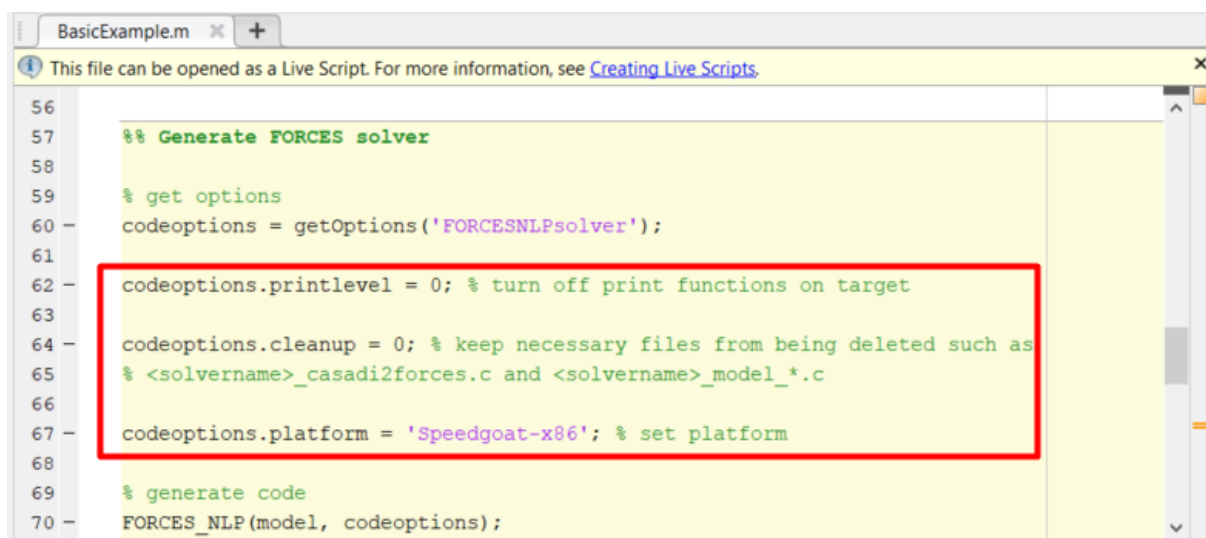

Figure 13.60: Set the appropriate code generation options.
1. (Figure 13.60) Set the code generation options: